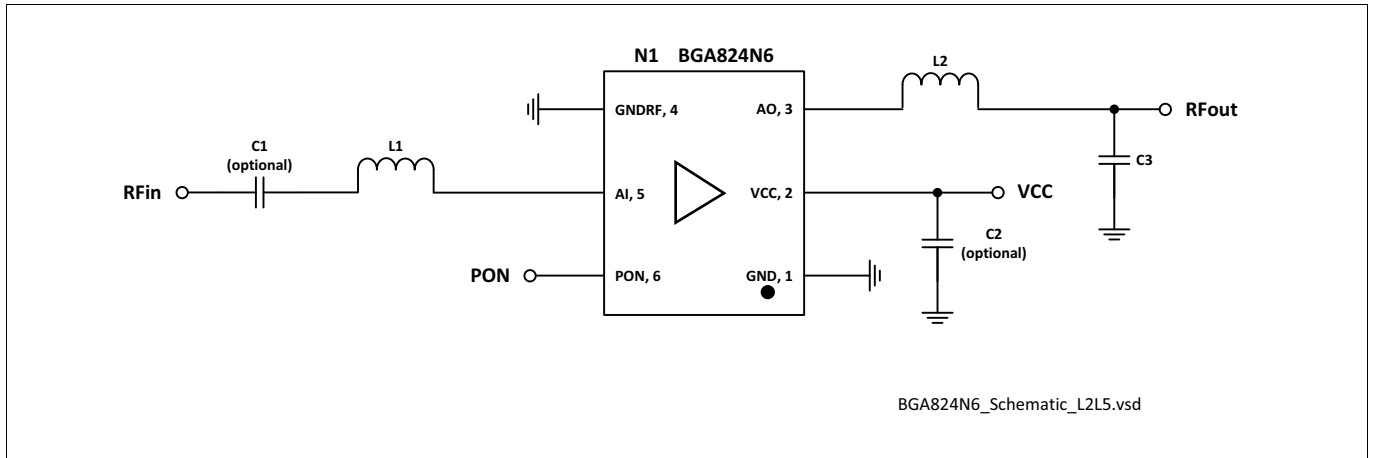

Figure 3 Application Schematic BGA824N6 f = 1164 - 1300 MHz
1) Based on the application described in Figure 3 in Chapter 4